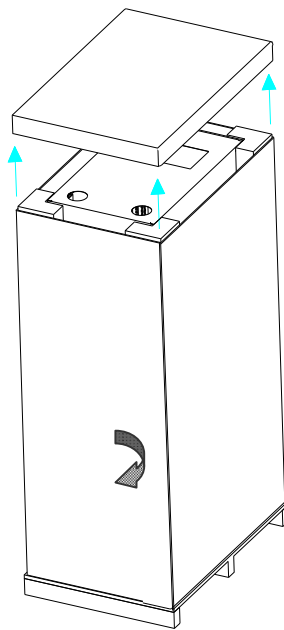

Fig.3-2
2. Lift the top cover board of the carton upward to remove it and remove the packing cardboard from the side of the unit (See Fig.3-2);